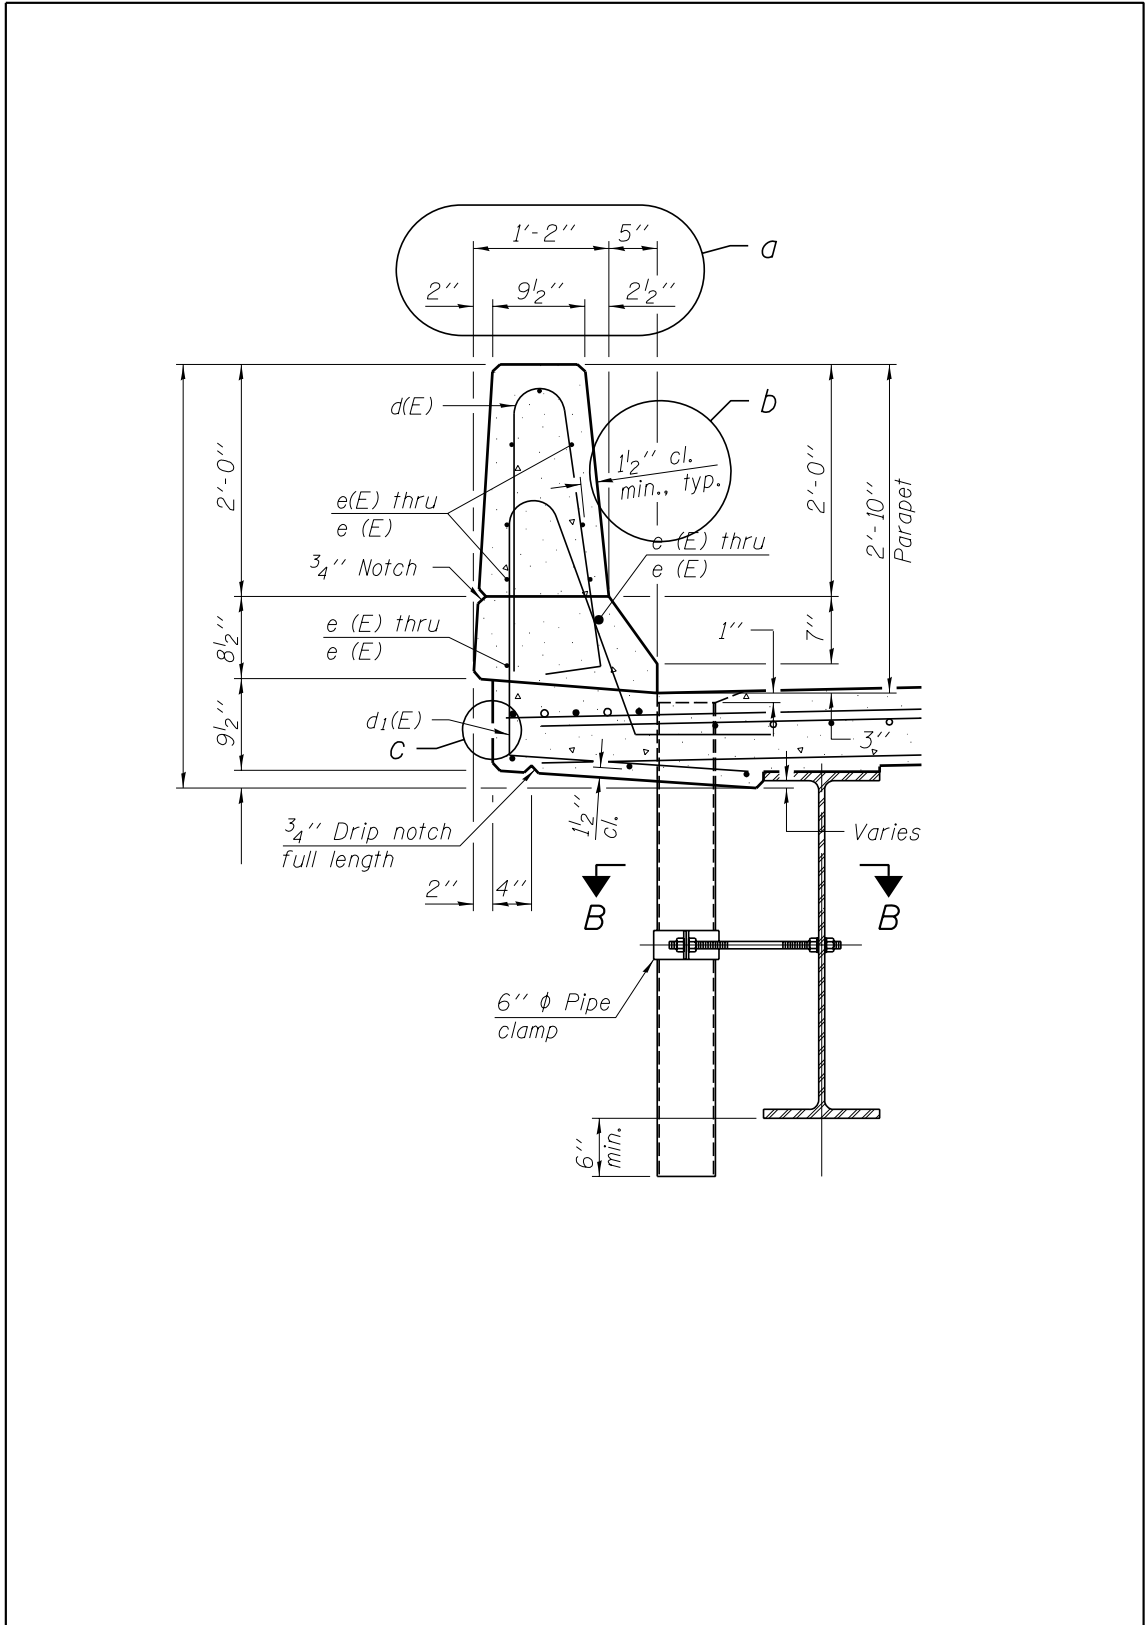

Figure 3.5-1. Dimension Placement and Callouts (Example #1)
- Dimension stack spacing should be $\frac{1}{2}$ ", although $\frac{3}{8}$ " is acceptable if there are space constraints. The extension lines should extend $\frac{1}{16}$ " beyond the dimension line. See Figure 3.5-1 \(Detail "a"\).
- Dimension lines should not be broken unless passing through another dimension or text. See Figure 3.5-1 \(Detail "b"\).
- Generally, do not break or mask object lines for dimension lines unless there is interference with an arrowhead or text. See Figure 3.5-1 \(Detail "c"\).